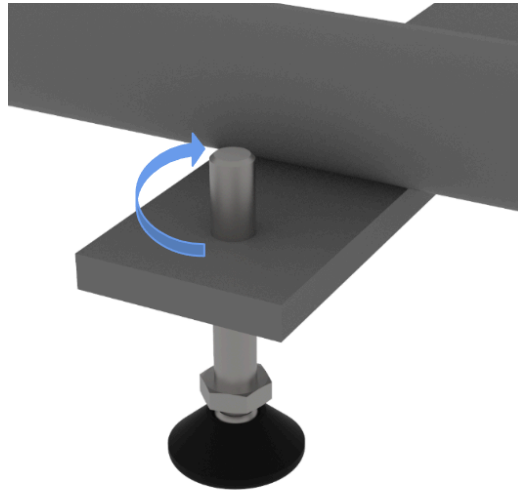

Figure 7: Leveling legs
In order to set up rails, first unpack them and place them on the floor. Rails are leveled using screwable legs which are placed on the end of the rails. The level legs can be adjusted using the combination flat key 13. Before placing the rails in the desired position, screw in all level legs at the half position in order to have enough space for leveling on the uneven ground. This is shown in *Figure 7* below.